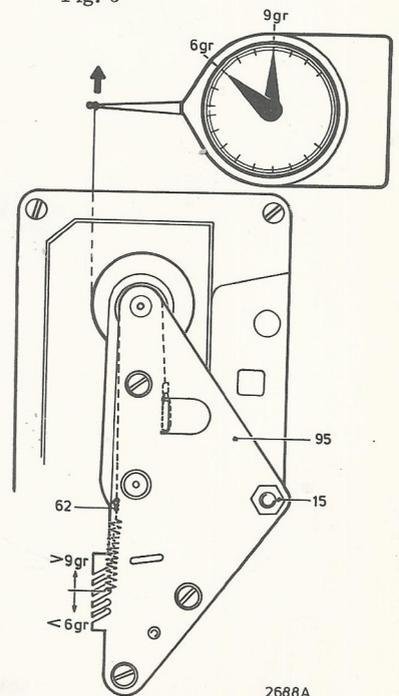

Fig. 7
8. Adjusting the counter friction (Fig. 7)